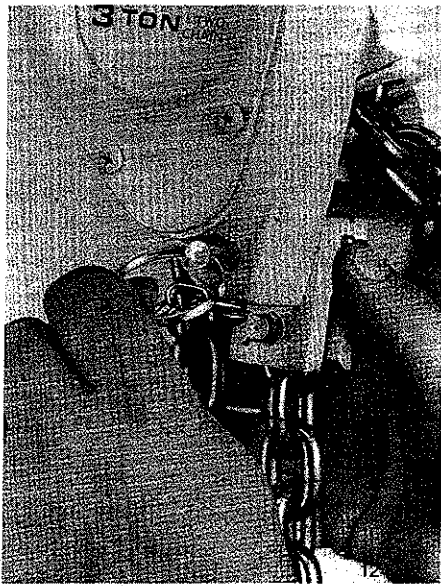

Figure 8-4.
- b. Depress and hold Release Pin and withdraw Frame Anchor Pin as shown in Figure 8-4.